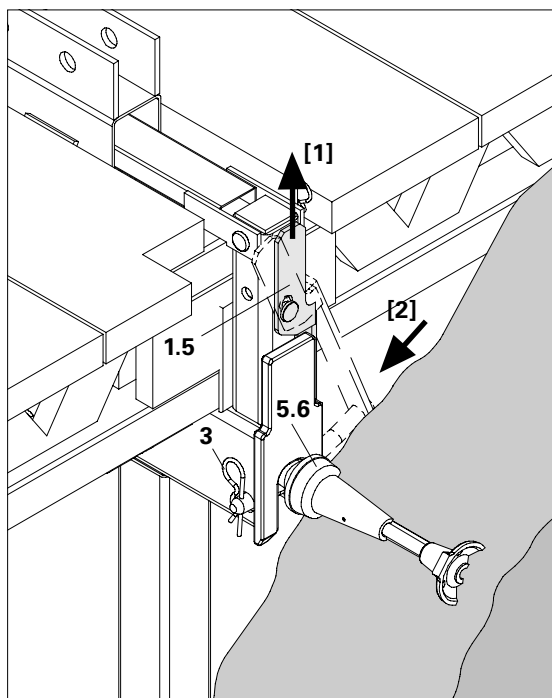

Fig. B1.23
12. Secure with cotter pins (3). (Fig. B1.23)